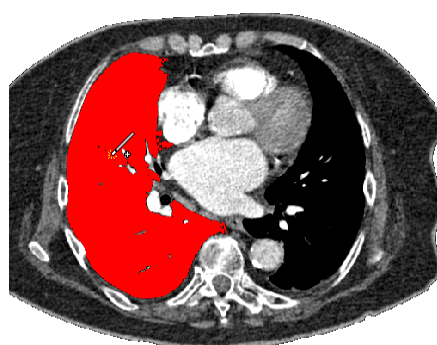

Figure 263 – Defining an area using the Magic wand drawing tool
7. Press and hold down the left mouse button to define the starting point, and from there drag the cursor to demarcate the area what you want to define. The further you drag the cursor away from the starting point, the wider the color range will be (see Figure 263).